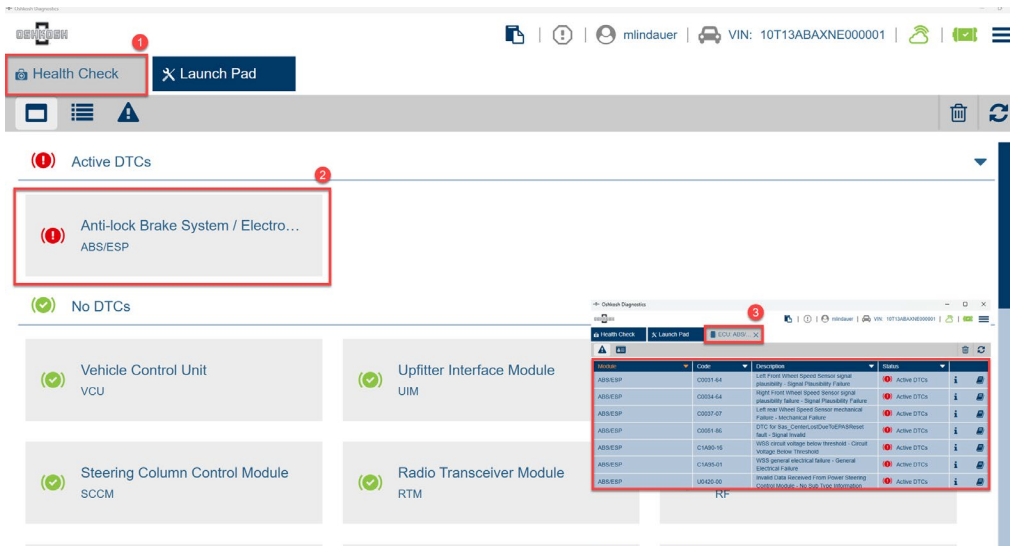

Figure 2
2. Launch OKDT to the page shown in Figure 2. When Health Check (Figure 2, Item 1) completes, select the ABS/ESP module tile (Figure 2, Item 2) on the Health Check menu to view the ABS/ESP DTCs (Figure 2, Item 3).